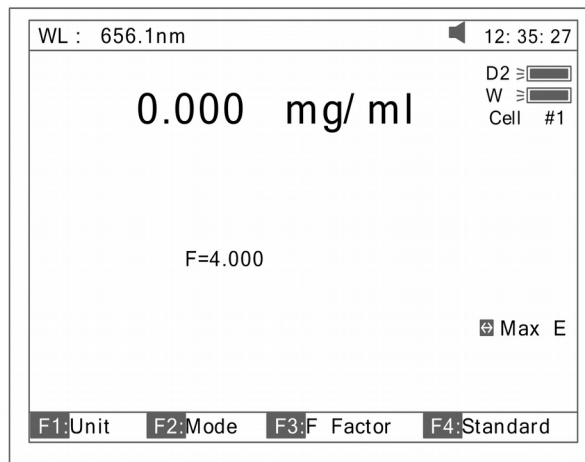

Fig 24
4.2 Push sample of known concentration into the Main Light Path Press **(F4)** to input known Conc value, Fig 24. Then push the sample into Main Light Path to take reading of concentration.